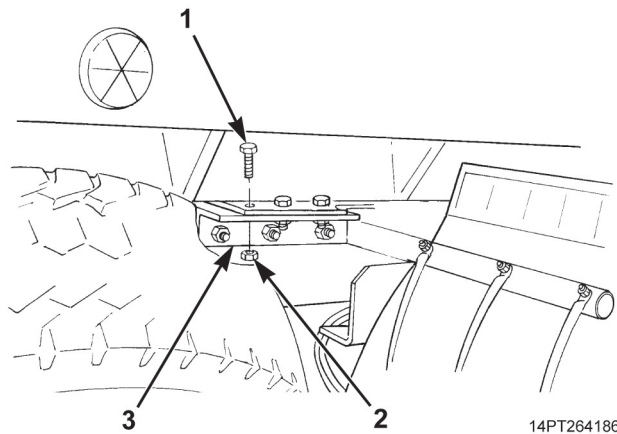

Figure 8. Angle Bracket Hardware Installation.
10. Align lower half of stabilizer mounting surface to angle brackets (Figure 8, Item 3). Install six screws (Figure 8, Item 1) and new locknuts (Figure 8, Item 2) in driver's side and passenger's side angle brackets. Torque locknuts to 150 lb-ft (203 N•m).